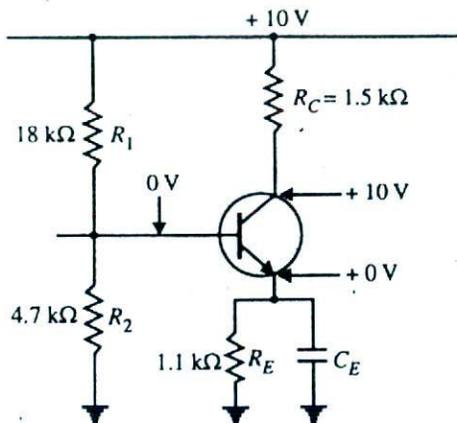

Fig. 11.30
**Example 11.25.** What fault is indicated in Fig. 11.30? Explain your answer with reasons.